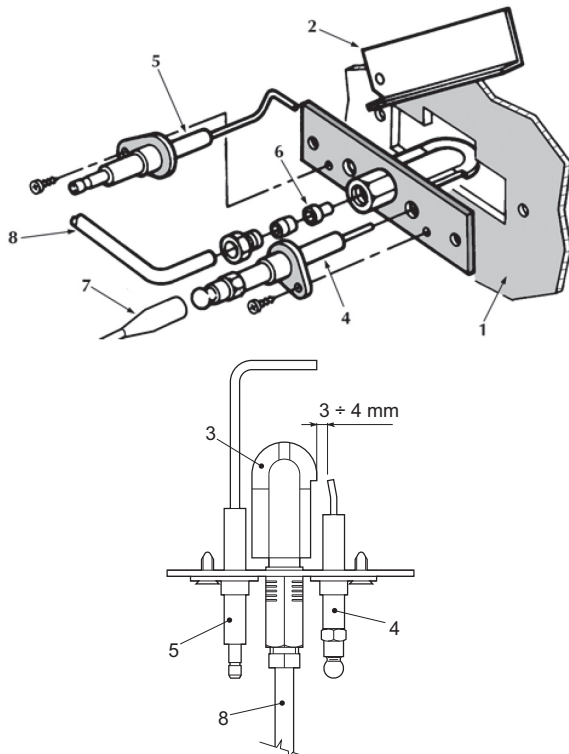

fig. 22 - Pilot burner
- The electrodes must be free of scale and properly positioned (see fig. 22).